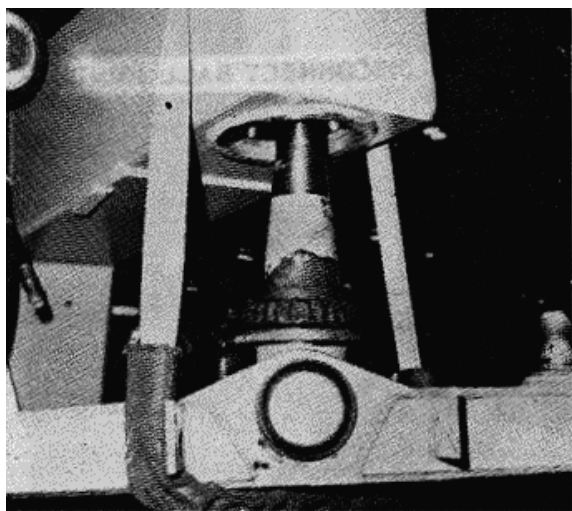

FIGURE 9-118.
c. Lower yoke assembly onto the floor, then remove both king pin bearings and the seal. Tag bearings for reassembly with its respective cup. Inspect bearings and replace both king pin bearing assemblies if any one; of the bearing components is damaged (see figure 9-118).